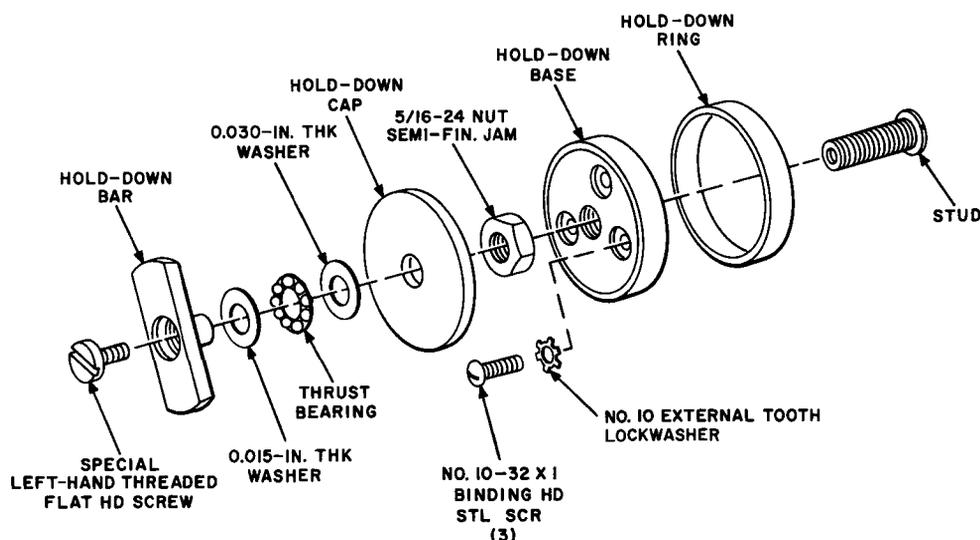
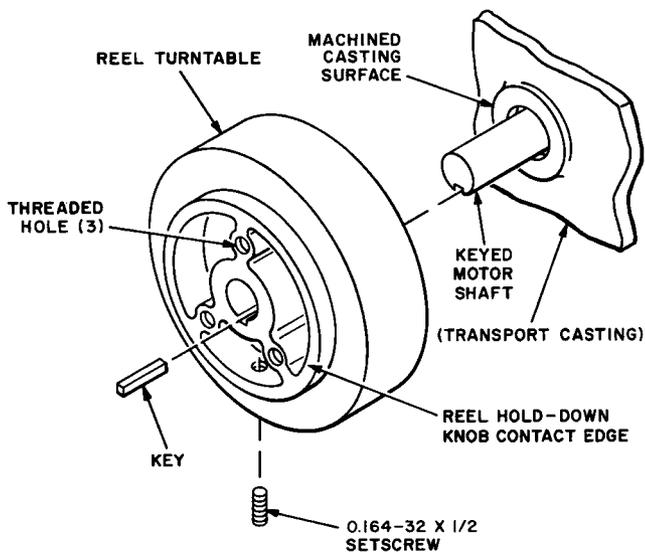

Fig. 6—KS-19125, L101 Reel Hold-Down Knob—Exploded View
Fig. 7—Reel Turntable and Mounting Details—Typical
- (1) While holding hold-down bar (Fig. 6), use the 5-inch E screwdriver to remove special left-hand threaded screw. (Turn screw clockwise.) Take care not to mar the slotted area of the screw.
- (2) Unscrew hold-down bar by turning it counterclockwise and remove bar from stud.
- (3) Remove thrust bearing, two washers, and hold-down cap from stud.
(4) Using the 4-inch E screwdriver, remove three screws and lockwashers securing hold-down base to reel turntable and remove hold-down base, ring, and stud.
(6) Using the 4-inch E screwdriver, reinstall hold-down base (Fig. 6) and ring assembly on turntable (Fig. 7) with three screws and external tooth lockwashers.
(7) Refer to Fig. 6 and install hold-down cap, two washers, and thrust bearing. Using a clean KS-2423 cloth moistened with Freon (TF grade), remove old antiseize compound from threads of stud. Apply KS-19094 L1 antiseize compound to approximately five threads nearest the end of the stud. Then thread hold-down bar onto stud, taking care that washers and thrust bearing are in proper alignment before tightening.
(8) Apply Loctite E sealant to threads of special left-hand threaded flathead screw. Install screw by threading it counterclockwise into the end of the stud while holding the hold-down bar. Take care not to mar the slotted area of the screw, and tighten to a torque of 18 to 20 inch-pounds using the APCO Mossberg torque screwdriver fitted with a 3/8-inch screwdriver bit. To measure counterclockwise torque, set screwdriver to torque desired and rotate handle counterclockwise to zero.